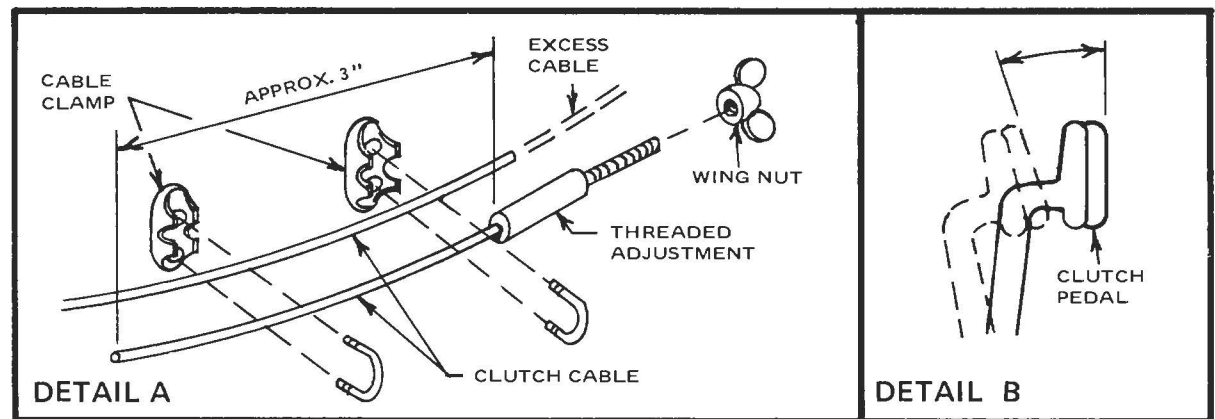

Figure 9
- ☐ Cut the clutch cable approximately 3" from the end of the threaded adjustment rod so that you will have enough cable to allow for clamping. (Refer to Figure 9)